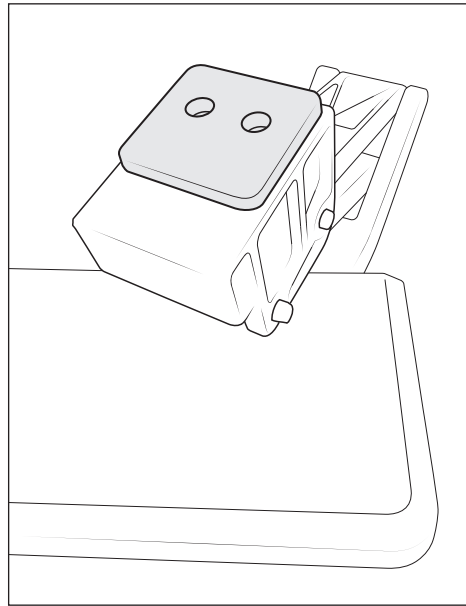

Figure 2
- Align the two-hole spacer that comes with the AMP Research BedStep kit to the top holes on the amp step as shown (fig. 2). With the AEV bracket now assembled; align bracket, spacer, and amp step to the two holes. Secure bracket to the amp step with (2) M10-1.5 x 30mm Bolts and M10 washers.